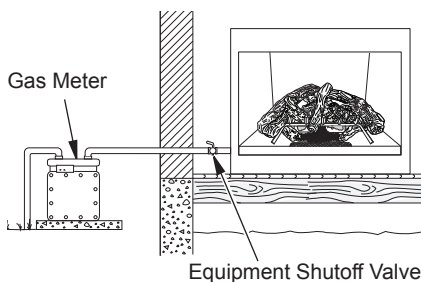

Figure 7 - Checking Gas Joints
3. Check all joints from gas meter to equipment shutoff valve (see Figure 7). Apply a noncorrosive leak detection fluid to gas joints. If bubbles form, there may be a leak.